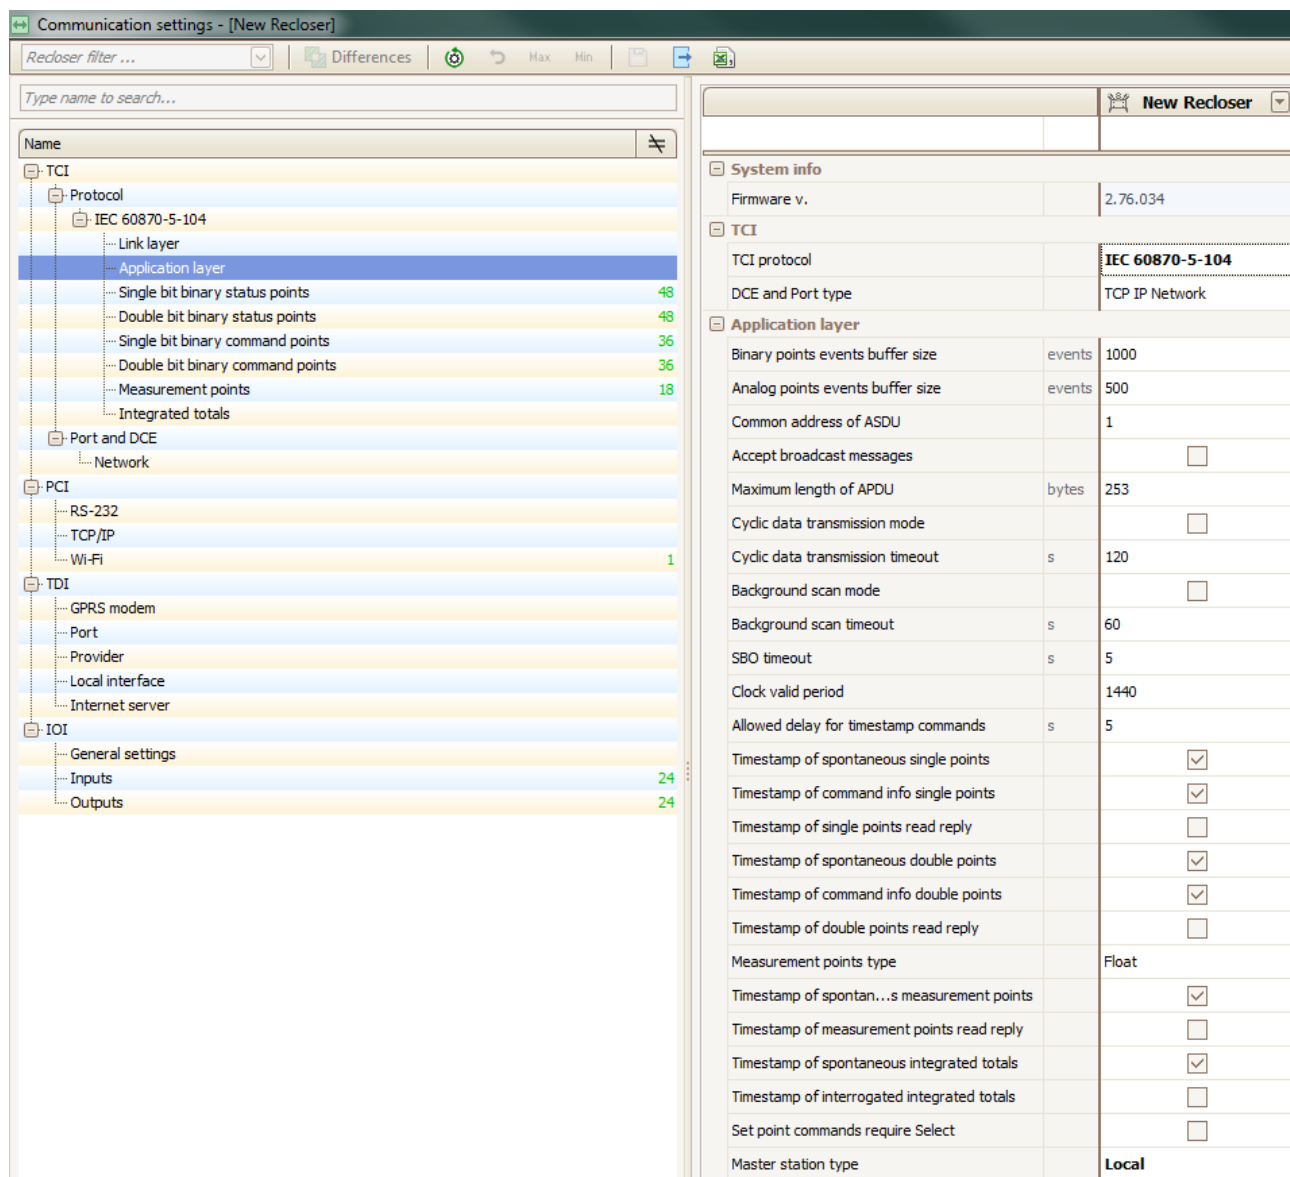

Figure 66
- 3) "Communication settings" window will popup where it is possible to edit protocols and interfaces settings (Figure 66).